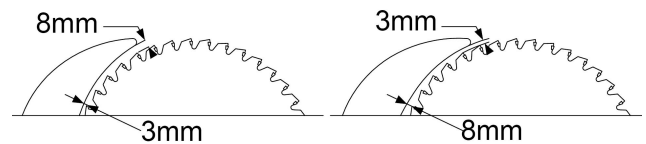

Fig.22
2. The distance of the riving knife from the gear rim must be between 3 mm and 8 mm measured radially through the center of the saw spindle. As shown in **Fig.22**.